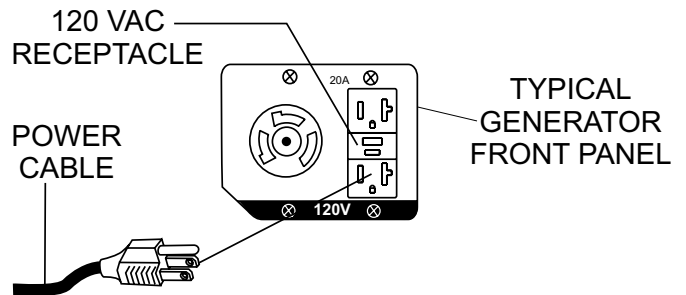

Figure 23. Connecting to Power Source
2. Connect the AC power cable to the 120 VAC receptacle on the generator used. See Figure 23.